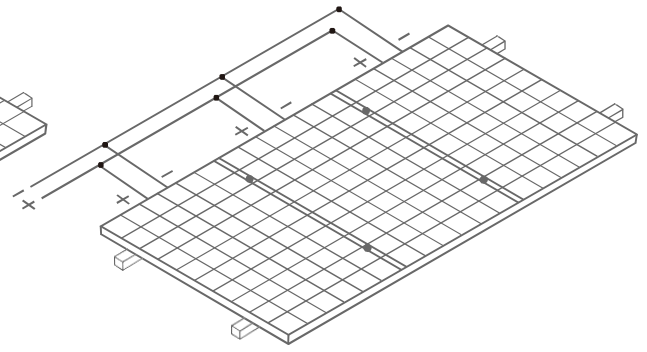

Figure 9 Connection in parallel
- When connected in parallel, the current output is equal to the sum of each string's current (as shown in Figure 9). Fuse is necessary for each module string. Take reference to the local regulation. Recommended maximum parallel Modules configurations: Fuse rating/ (1.25* short-circuit current).